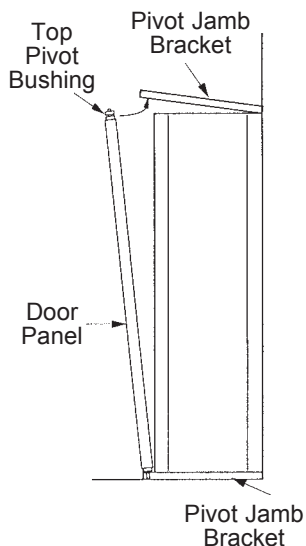

Figure 5
- A. Carefully lift the door and set the bottom Pivot Pin (#15) into the Pivot Bushing (Bottom) (#14). Holding the door panel in place, set the Pivot Bushing (Top) (#13) over the top Pivot Pin (#15) (See Figure 5).